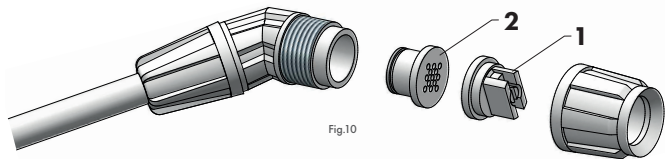

Fig.10
Point the lance tip (fig. 10) at the location to be sprayed.
The filter (fig. 12/pos. 1) located on the lance handle (fig. 12/pos. 2) and the foamer insert and nozzle (fig. 10/pos. 1 and 2) located at the lance tip (fig. 1/pos. 1) must be cleaned periodically and before any prolonged downtime.
Clogged foaming insert or nozzle on the lance tip (fig. 10/pos. 1).	Unscrew the lance tip and remove the foaming insert and the nozzle (fig. 10/pos. 1). Clean and reassemble.